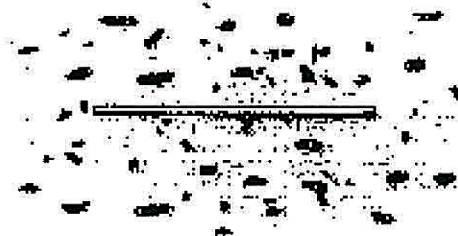

Fig. 2
6. When the top plate comes into contact with the 1/8" rail, check to see if the soil is at the Plastic Limit. For an example of the Plastic Limit, see Figure 2. (Be sure to check all Plastic Limit definitions with the procedure.)